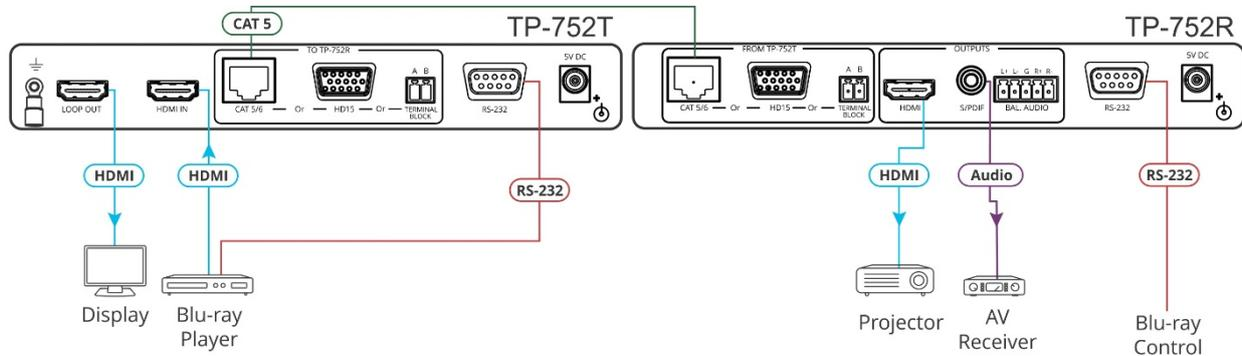

Figure 3: Connecting the Transmitter to the Receiver
To connect the TP-752T and TP-752R as illustrated in the example in Figure 3:
- Connect the LOOP OUT HDMI connector (5) to an HDMI acceptor (for example, a display)
- Connect the HDMI source (for example, a Blu-ray player) to the HDMI IN connector (6).
- Connect the RS-232 9-pin D-sub connector (10) to the HDMI source (for example, to control the Blu-ray player).
- Connect the HDMI OUTPUT (19) to an HDMI acceptor (for example, a projector).
- Connect the S/PDIF RCA connector (20) to a digital audio acceptor (for example, an AV receiver).
- Connect the BAL. AUDIO 5-pin terminal block connector (21) to a stereo balanced audio acceptor (not shown in Figure 3).
- Connect the RS-232 9-pin D-sub connector (22) to a controller (to control the Blu-ray player on the transmitter side).
- The CAT 5/6 RJ-45 connector, (7) to (16) via a CAT 5 cable.
- The TERMINAL BLOCK 2-pin terminal block connector, (9) to (18) (not shown in Figure 3).
- The HD15 15-pin HD connector, (8) to (17) (not shown in Figure 3).
4. Set the same baud rate on both devices via the BAUD RATE DIP-switches (2) and (13) (see Setting the Baud Rate on page 9).
5. Connect the power adapters to the TP-752T and TP-752R power connectors ((11) and (23)), and to the mains electricity (not shown in Figure 3).